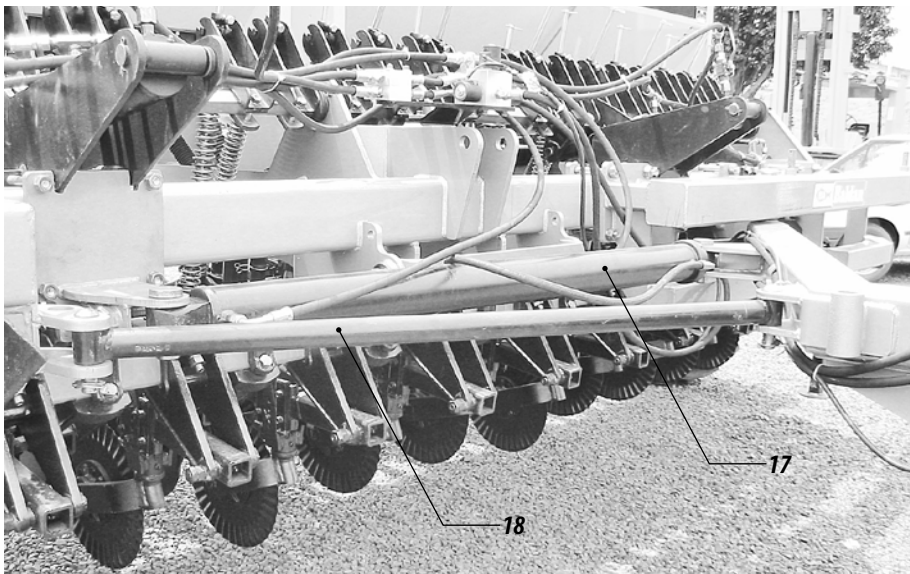

Figure 48
13- Operate the hydraulic piston (17) to open the header, using switch # 3 of the panel, then insert the latch (18) of the header, figure 48.